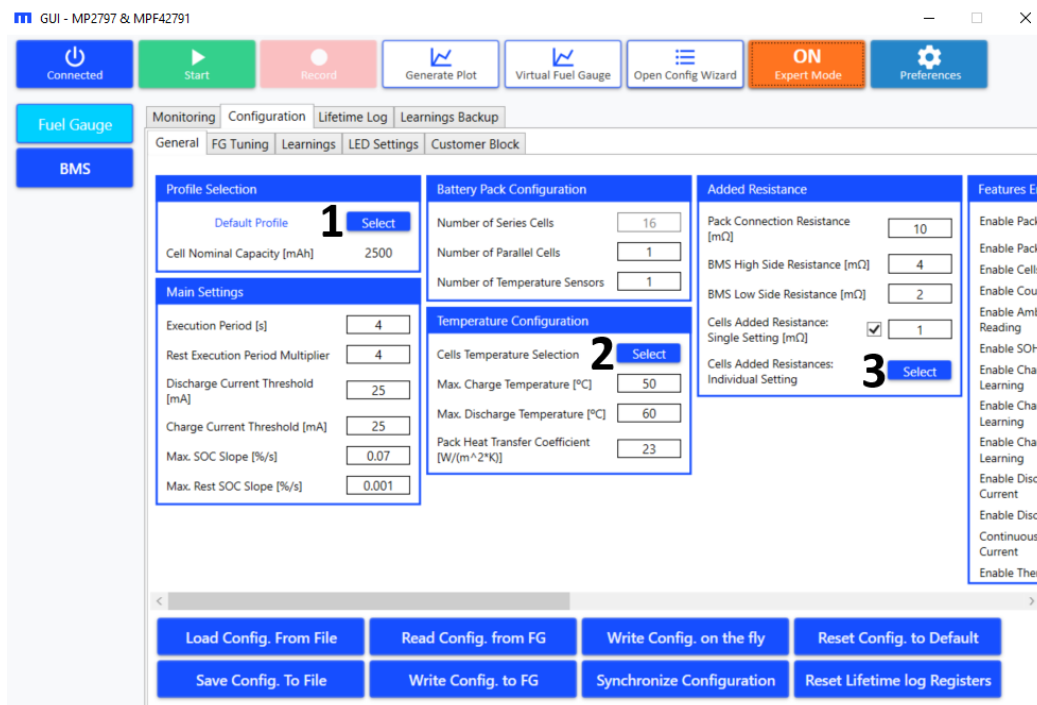

Figure 38: Fuel Gauge Configuration – Expert Mode
3. To see the full set of registers to fine-tune the fuel gauge, select “Expert Mode” (denoted as “7” in Figure 28 on page 24). The full set of configuration registers should be displayed, as well as two extra sub-tabs: Learnings and Customer Block (see Figure 38). Figure 38 shows three “Select” buttons, discussed in greater detail below.